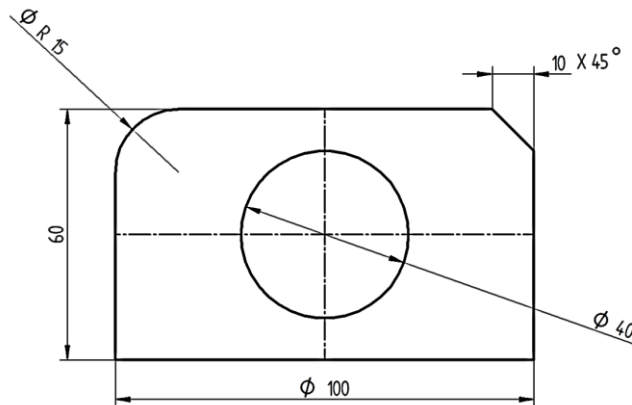
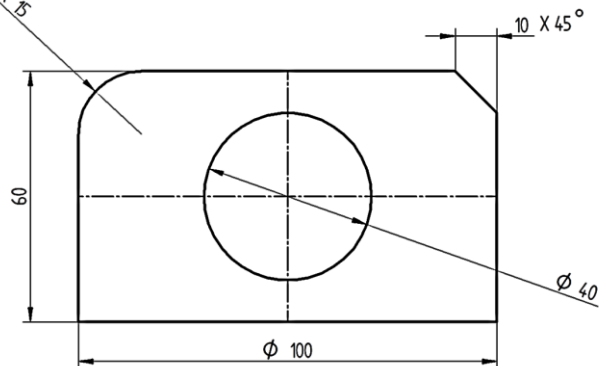

Figure 1.41
Figure 1.42 Computer Output
12. Select dimension command  select the required line and geometry to dimension the features as shown in the FIG. 1.41. The output is shown in Fig. 1.42